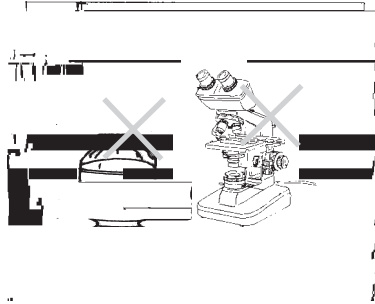

Fig. 9.1
- Place the microscope on a level vibration-free surface. Never keep it on the surface where a centrifuge is placed. Also, keep it away from refrigerators and air conditioners (Fig. 9.1).